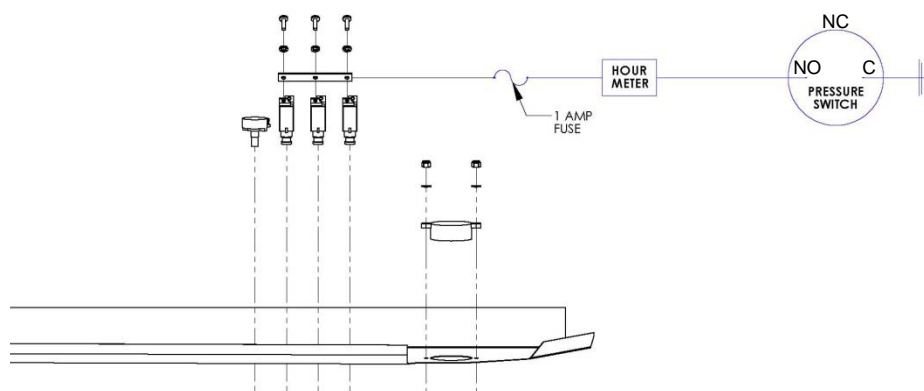

FIGURE 2 - Hour Meter Schematic
5. Using 20 gauge wire (HDW-22759-16-20), wire end of fuse holder (FH2C) to the positive (+) post on the Hour Meter using spade connector. Wire the other end of the Fuse Holder (FH2C) to the bus bar of the circuit breakers in wing root panel with VP6001-039 (Terminal Ring 22-16G #8 Stud). See Figure 2.